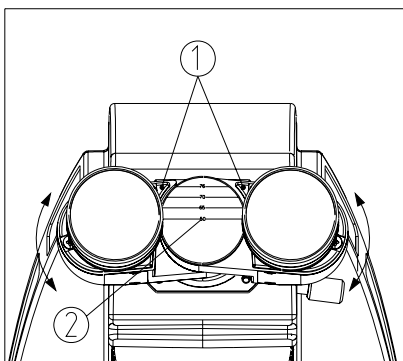

Fig12
“。”① on the eyepiece base points to the scale ② of interpupillary indication, which means the value of interpupillary distance (see Fig. 12).